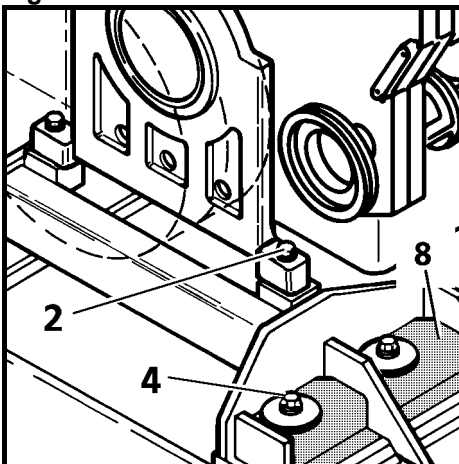
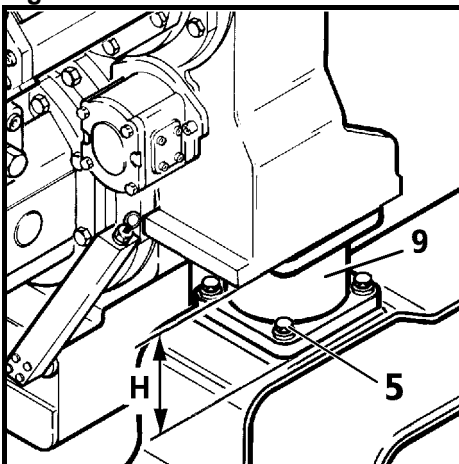

Fig. 8
Fig. 9
Check the mounting screws 2 on the engine brackets (Fig. 8) and the engine or gear mounts (Fig. 8, pos.4 or Fig. 9, pos. 5) regularly for tightness, retorque if necessary.
The four rubber cushions 8 at front face of engine (Fig. 8) and the two buffers 9 at the splitterbox side (Fig. 9) must be replaced at regular intervals.